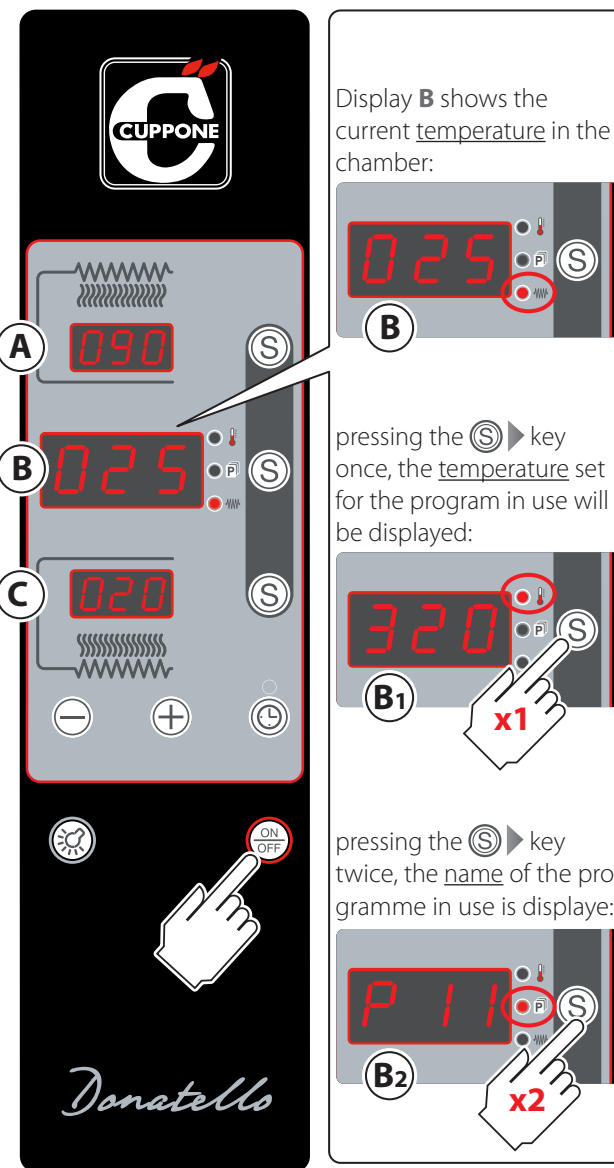

Fig.15.
See ► chap. **"MANUAL SWITCH-ON"** on page 15 and Fig.15.
► Fig.15.